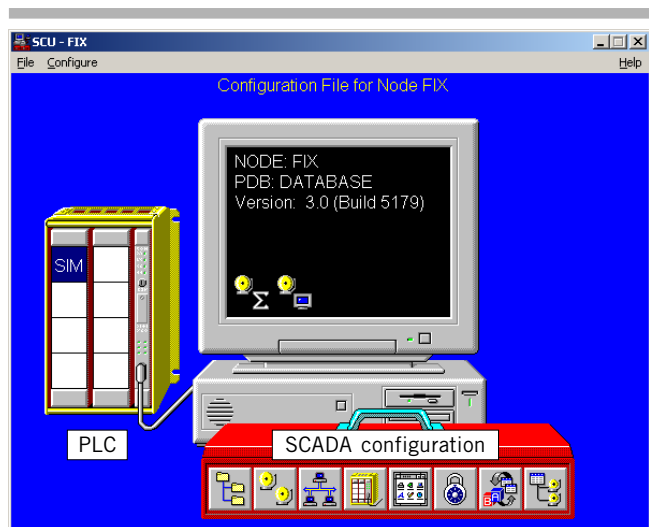

Fig 2.
- 1.3 Click the **SCADA configuration** icon (Fig 2).